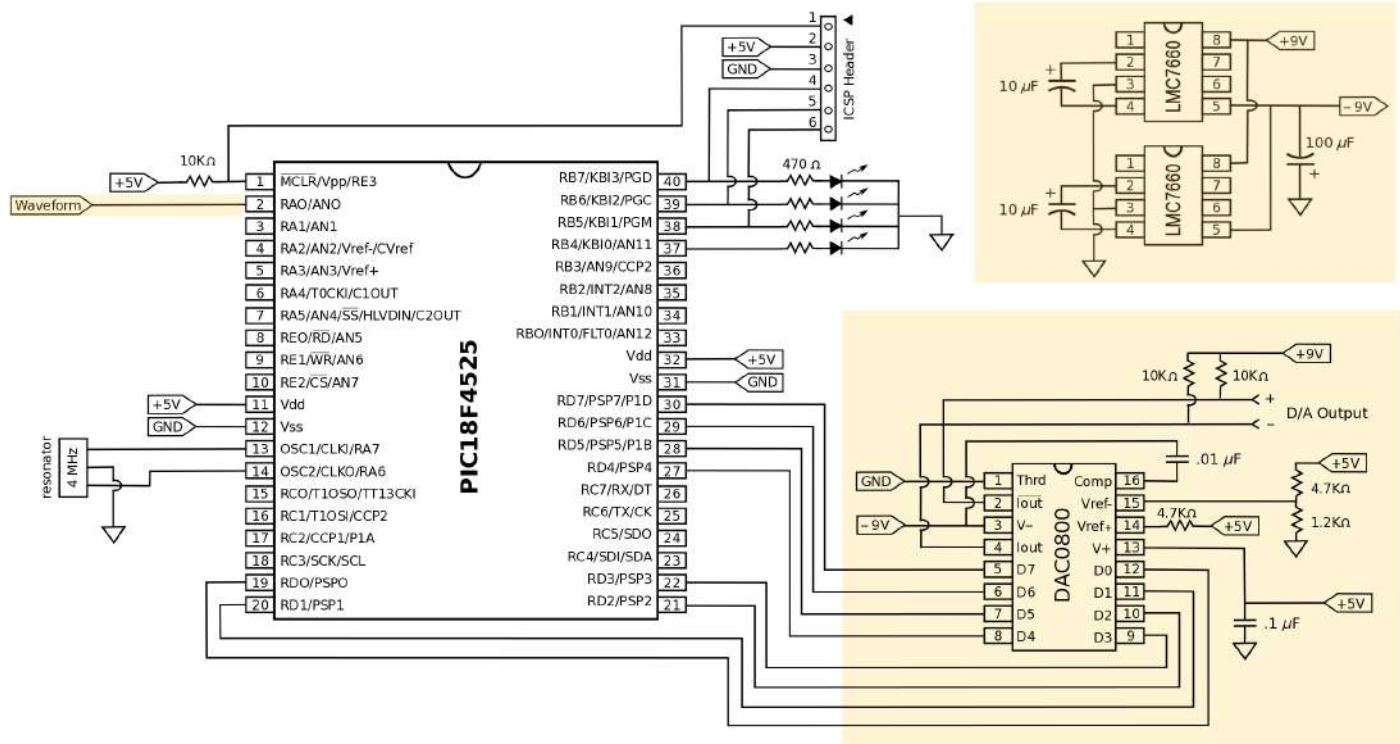

Figure 2.1: Schematic of circuit with DAC for ECG simulation
GOAL: In today's lab you will be creating an ECG Simulation by building upon the circuit you constructed in Lab 1. You will do this by adding new components (highlighted in Figure 2.1), the DAC 0800 and LMC7660, as well as adding a new code.
1. Using your breadboard and circuit from Lab 1, add the highlighted section seen above in Figure 2.1 to your previously existing circuit.